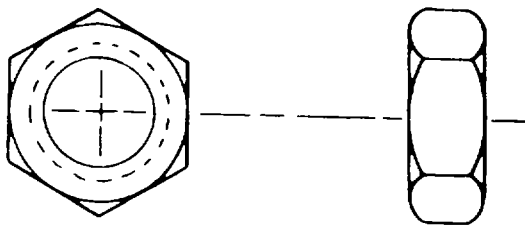

Figure 2-24. Plain Checknut
(3) Engine. Engine castle nuts, AN121551 through AN121575, are identified by E11 stamped into the metal Do not substitute any other type nut.
c. Checknuts. Use AN316 aircraft plain check-nuts, as shown in figure 2-24, as a locking device for plain nuts, setscrews, threaded rod ends, and other similar items